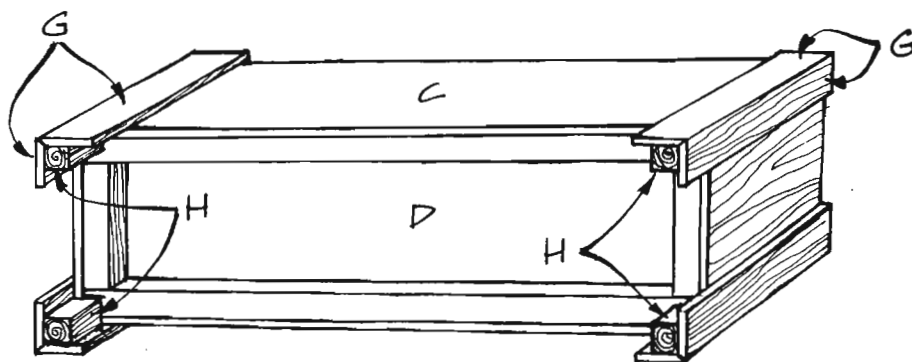
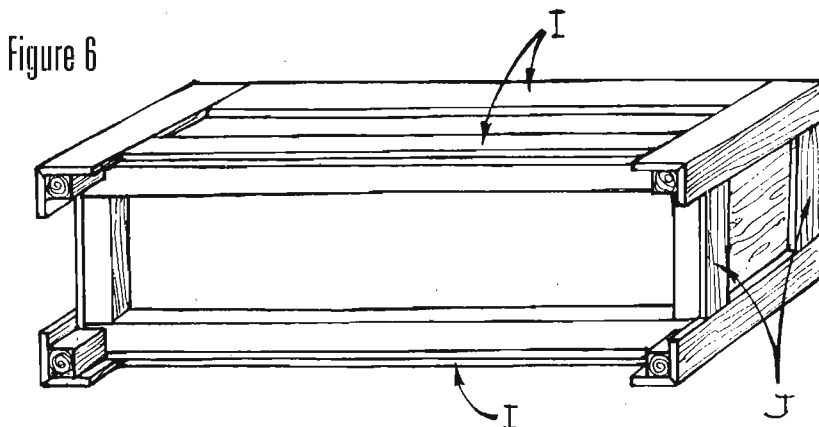

Figure 5
Figure 6
4. Attach two of the vertical trim pieces (G) to each corner of the assembly, matching the beveled edges as shown in *Figure 5*. Note that the vertical trim pieces (G) are flush at the top with the front, back, and sides (C and A), and extend 2-1/2 inches past the bottom. Wipe glue on all of the surfaces to be joined, and use 1-1/4-inch screws placed about every 4 inches. To avoid having screw holes on the
5. Cut four leg supports (H) from 2 x 2 pine, each 2-1/2 inches long.
6. Glue and screw one leg support (H) to the inside of each leg formed by the vertical trim (G), as shown in *Figure 5*. Screw through the leg support (H) into the vertical trim (G) using two 2-inch-long screws on each side of each leg support (H).
7. Cut four long horizontal trim pieces (I) from 1 x 4 pine, each 42-1/2 inches long.
8. Glue and screw one long horizontal trim piece (I) between the two vertical trim pieces (G), putting it flush with the top of the front (C), as shown in *Figure 6*. Again, to avoid screw holes on the outside, screw through the inside of the front (C) into the long horizontal trim piece (I). Use 1-1/4-inch-long screws placed about every 5 inches.
9. Glue and screw a second long horizontal trim piece (I) flush with the bottom of the front (C), as shown in *Figure 6*. Again, screw
10. Repeat steps 8 and 9 to attach the remaining two long horizontal trim pieces (I) to the back (C).
11. Cut four short horizontal trim pieces (J) from 1 x 4 pine, each 11-1/2 inches long.
12. Glue and screw one short horizontal trim piece (J) between the two vertical trim pieces (G), placing it flush with the top of one side (A) as shown in *Figure 6*. Once again, screw through the side (A) into the short horizontal trim piece (J). Use 1-1/4-inch-long screws placed about 5 inches apart.
13. Glue and screw a second short horizontal trim piece (J) flush with the bottom of the side (A), as shown in *Figure 6*. Screw through the inside of the side (A) into the short horizontal trim piece (J), and use 1-1/4-inch-long screws placed about 5 inches apart.
14. Repeat steps 12 and 13 to attach the remaining two short horizontal trim pieces (J) to the remaining side (A).